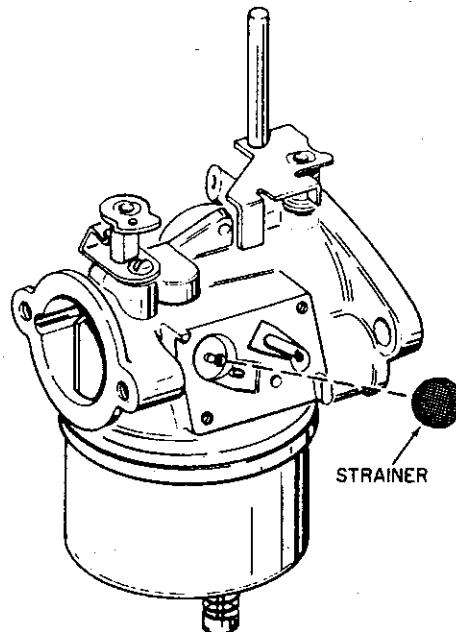

Figure 31
Clean or replace the strainer periodically. (See Figure 31.)
- (5) Check strainer located in carburetor body for restriction. (See Figure 31.)